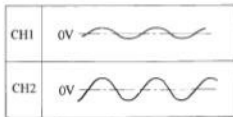

Fig. 2
When either the CH1 or CH2 input signal is smaller as shown in Fig. 2, adjust the VOLTS/DIV switches (13) and (14) to obtain sufficient amplitudes.